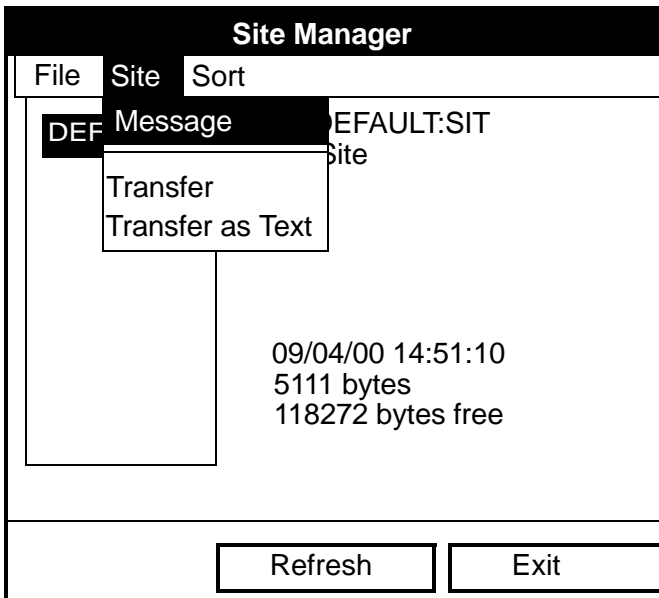

Figure 48: Site Menu in the Site Manager
You can access five additional functions from the Site submenu (shown in Figure 48 on page 81).
1. Press [MENU] to enter the File Menu. Then press the [▶] arrow key once to scroll from the File Menu to the Site Menu. Press [ENTER]. The screen appears similar to Figure 48 below.